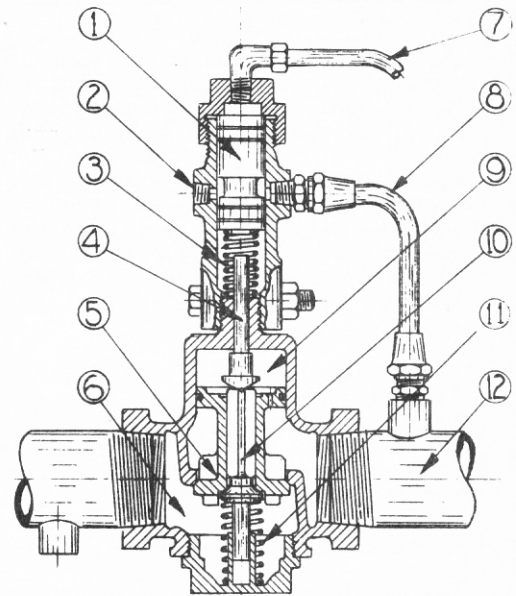

FIG. R-2
Fig. R-2 illustrates the master starting air manifold valve. It is pneumatically operated by means of a pilot valve located on top of the latch box. (Pilot valve described in Paragraph 6). The pilot valve is connected by means of tube (7) and for the position of the master valve shown in Fig. R-2 the pilot valve is venting tube (7) and the space above plunger (1) to atmosphere. Consequently spring (4) will hold plunger (1) against its upper stop and in this position the reduced diameter at the middle of the plunger will form a passage through which tube (8) and the starting air manifold is vented to atmosphere. Valve (5) is held closed against its seat by spring (11) and also by the air pressure in chamber (6) which is connected to the air tank.